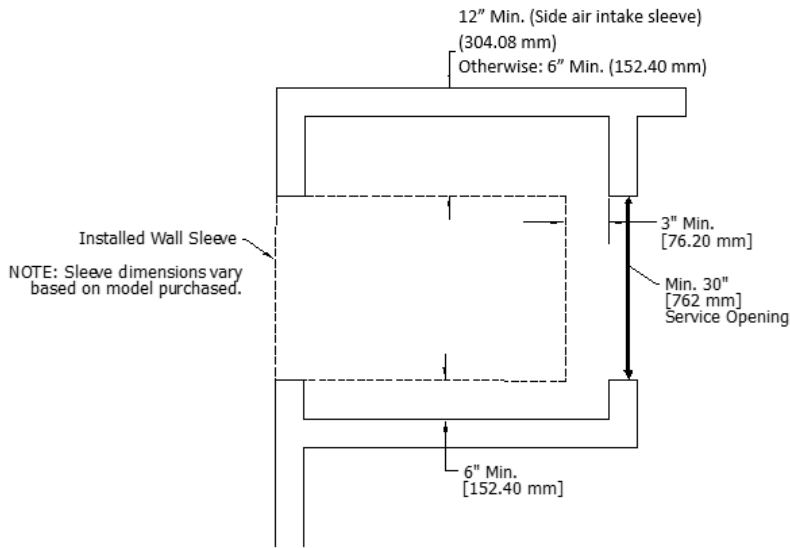

FIGURE 10 - Rear Installation
- Sleeve rough-in opening is 43-1/2 in. (H) [110.49 cm] x 26-3/4 in. (W) [67.94 cm].
- Minimum of 3 in. [7.62 cm] of clearance is required on all sides, except ERV fresh air (supply air) side, of the FRESH-PAK unit. See - FIGURE 10- Rear Installation.